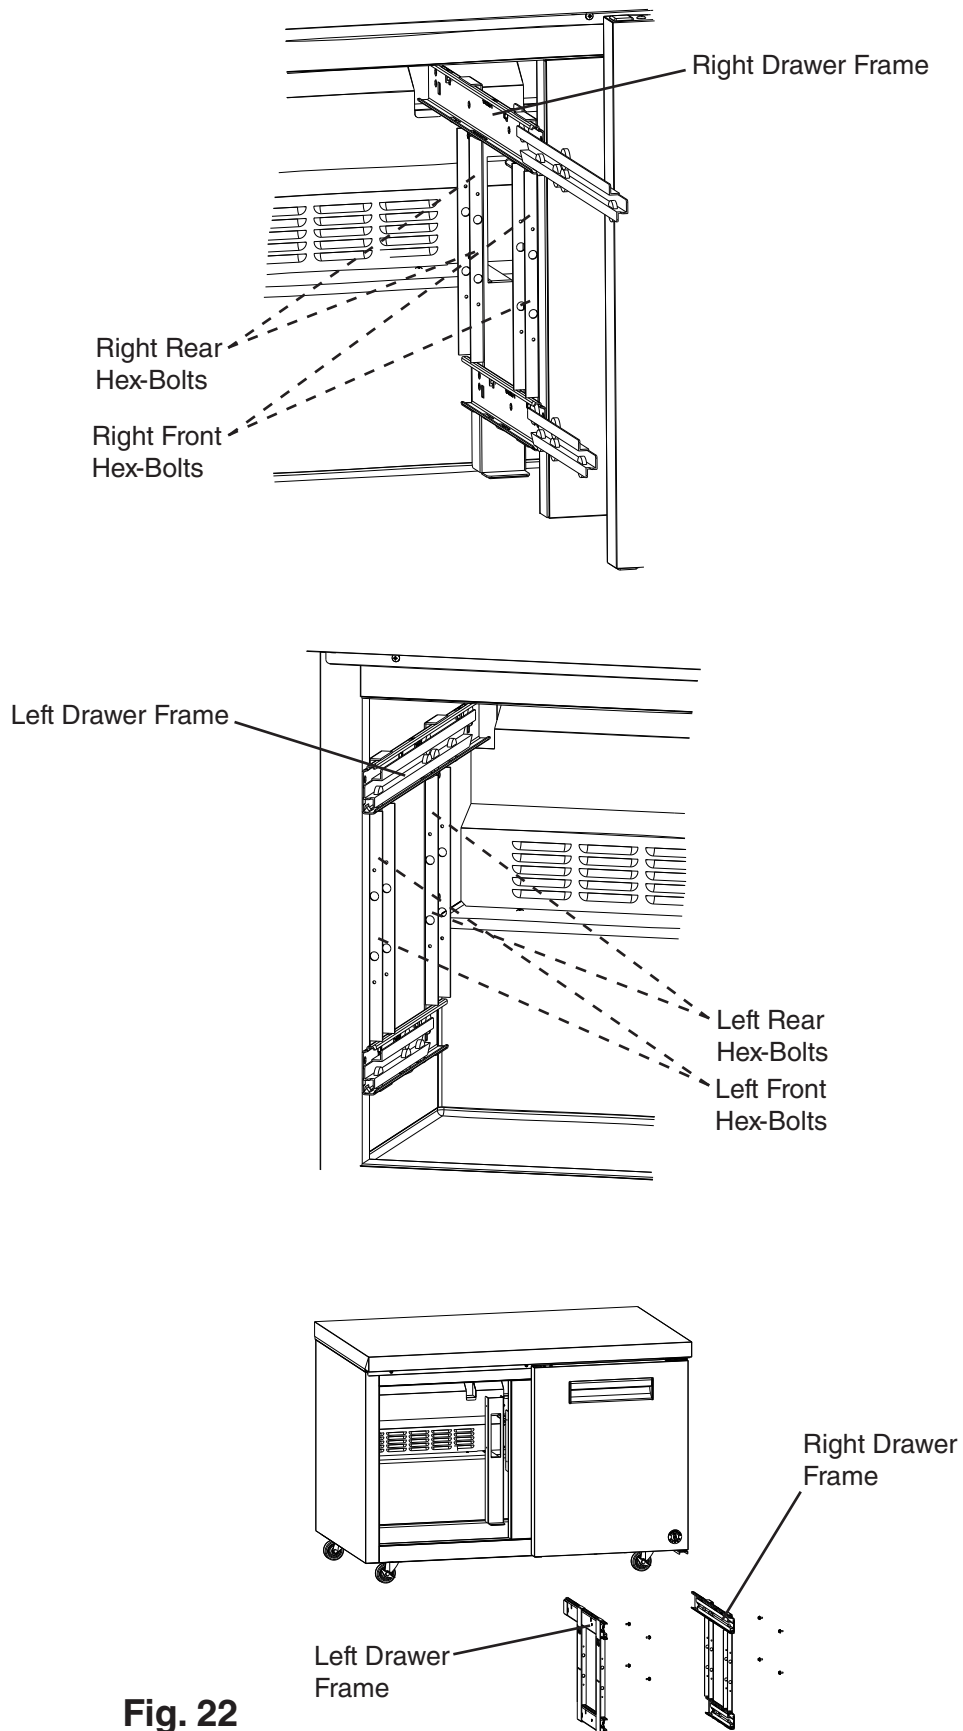

Fig. 22
- 4) Remove the hex-bolts from the drawer frames (4 hex-bolts per frame), then remove the drawer frames. See Fig. 22.